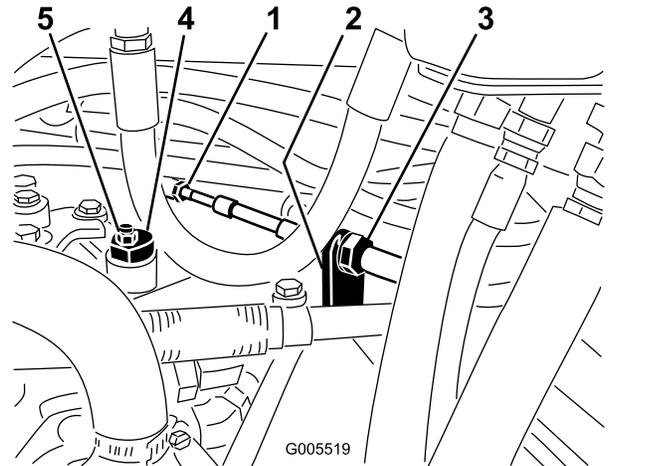

Figure 52
- A. Loosen both jam nuts securing the traction control cable to the bulkhead on the hydrostat (Figure 52). Make sure the jam nuts are loosened equally and sufficiently to allow adjustment.
Note: Loosen the nut securing the eccentric to the top of the hydrostat (Figure 52).
eccentric and the adjustment (Figure 52). Verify the adjustment with the throttle in the Slow and Fast position.
- D. From each side of the bulkhead, tighten the locknuts evenly, securing the traction cable to the bulkhead (Figure 52) Do not twist the cable.